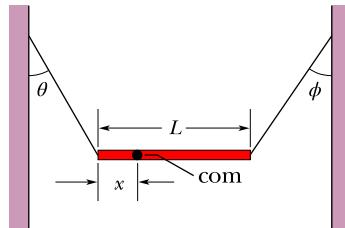

Figure 12.33 Problem 31.
- 31 M GO** In Fig. 12.33, a nonuniform bar is suspended at rest in a horizontal position by two massless cords. One cord makes the angle  $\theta = 36.9^\circ$  with the vertical; the other makes the angle  $\phi = 53.1^\circ$  with the vertical. If the length  $L$  of the bar is  $6.10 \text{ m}$ , compute the distance  $x$  from the left end of the bar to its center of mass.